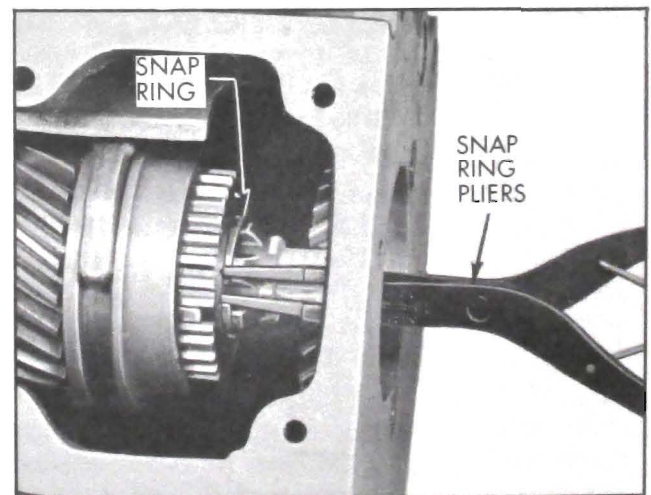

Figure 4-16—Removing Snap Ring from Front of Main Shaft
8. Remove front bronze blocking ring from synchronizer assembly. Remove snap ring from front of main shaft using suitable snap ring pliers. See Figure 4-16.
7. Insert first-reverse shift shoe into first-reverse shift shaft and install main shaft and bearing through rear bearing bore in transmission case. As shaft is being installed: (1) slide first-reverse gear onto splines with groove on gear toward front, (2) slide second speed gear on shaft with extended portion toward front, (3) with rear blocking ring in position, slide synchronizer assembly onto splines with extended portion of synchronizer sleeve toward front. Install main shaft snap ring. See Figure 4-16. Insert second-third